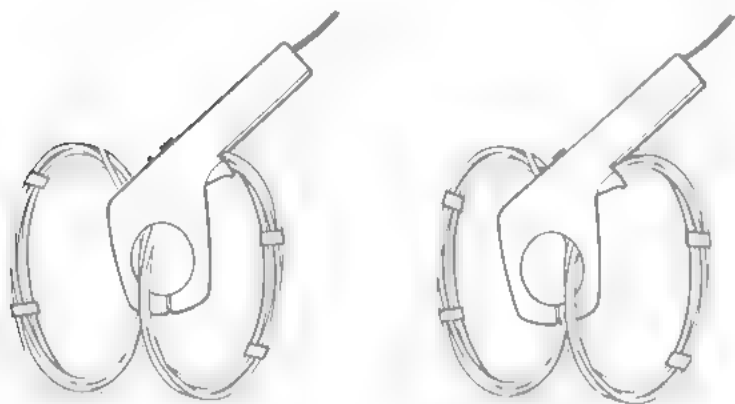

Figure 4-3. Conductor Positions for Hall Generator Balance Adjustment
4. Clamp the probe around the center conductor (Figure 4-3) and move the probe alternately back and forth to position the conductor first at the top and then at the bottom of the aperture. Note the readings and adjust the Hall Generator balance R30 until the top and bottom readings are equal  $\pm 0.3$  mV ac